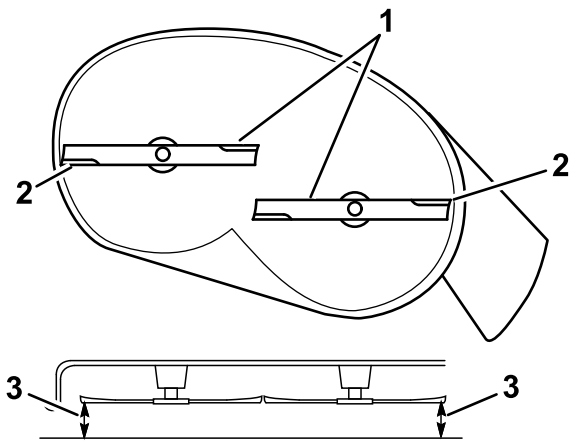

Figure 63
- Measure between the outside cutting edges and the flat surface (Figure 63).
4. After adjustment, check the front-to-rear slope again, continue adjusting the nut until the front blade tip is 1.6 to 7.9 mm (1/16 to 5/16 inch) lower than the rear blade tip (Figure 63).